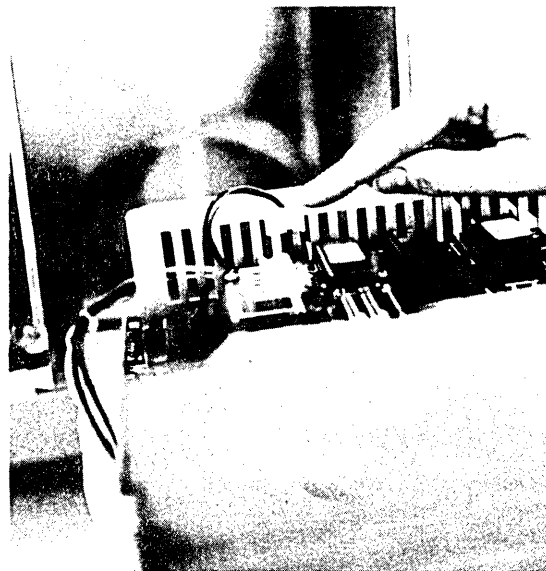

FIGURE 9
5. Locate the fan wire cable clamp (see Figure 9) on the vented wall of the carrier, just above the power connector.